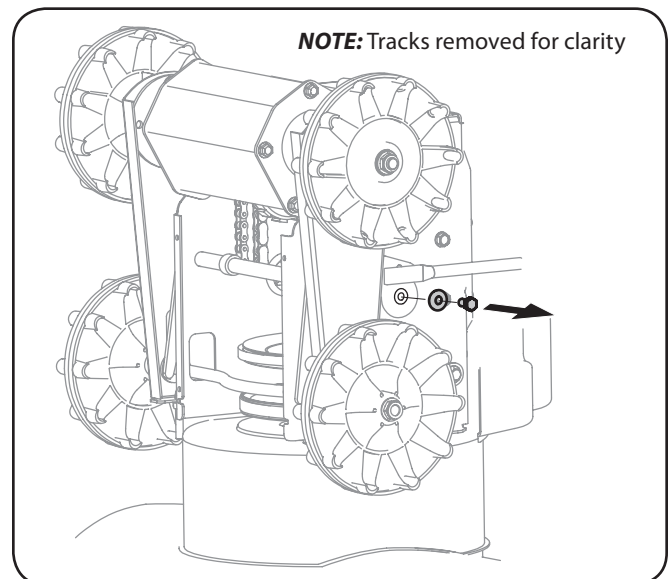

Figure 7-8
4. Using a $\frac{3}{4}$ " wrench to hold the gear shaft, remove the hex bolt and bell washer on the right end of the gear shaft. See Fig. 7-8 and 7-9.